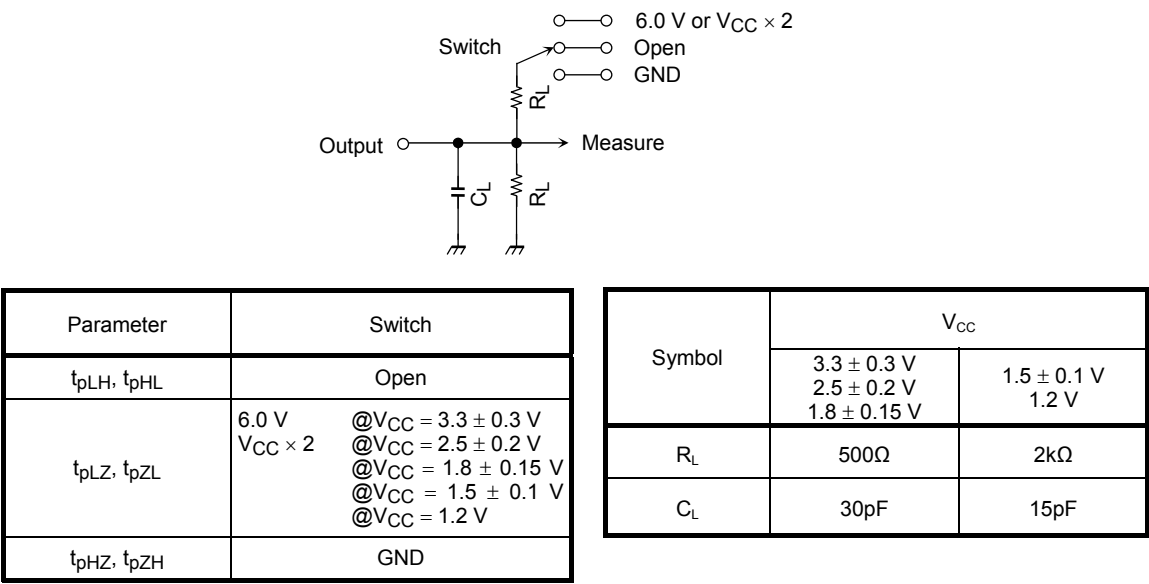

Figure 1
| Maximum clock frequency       | f max                         | Figure 1, Figure 2 | C L = 15 pF, R L = 2 kΩ  | 1.2                 | 40  | —    | MHz  |
| Propagation delay time (CK-Q) | t pLHt pHL     | Figure 1, Figure 2 | C L = 15 pF, R L = 2 kΩ  | 1.2                 | 1.5 | 48.0 | ns   |
| 3-state output enable time    | t pZLt pZH     | Figure 1, Figure 3 | C L = 15 pF, R L = 2 kΩ  | 1.2                 | 1.5 | 49.0 | ns   |
| 3-state output disable time   | t pLZt pHZ     | Figure 1, Figure 3 | C L = 15 pF, R L = 2 kΩ  | 1.2                 | 1.5 | 32.5 | ns   |
| Minimum pulse width (CK)      | t w (H)t w (L) | Figure 1, Figure 2 | C L = 15 pF, R L = 2 kΩ  | 1.2                 | 24  | —    | ns   |
| Minimum set-up time           | t s                           | Figure 1, Figure 2 | C L = 15 pF, R L = 2 kΩ  | 1.2                 | 20  | —    | ns   |
| Minimum hold time             | t h                           | Figure 1, Figure 2 | C L = 15 pF, R L = 2 kΩ  | 1.2                 | 8.0 | —    | ns   |